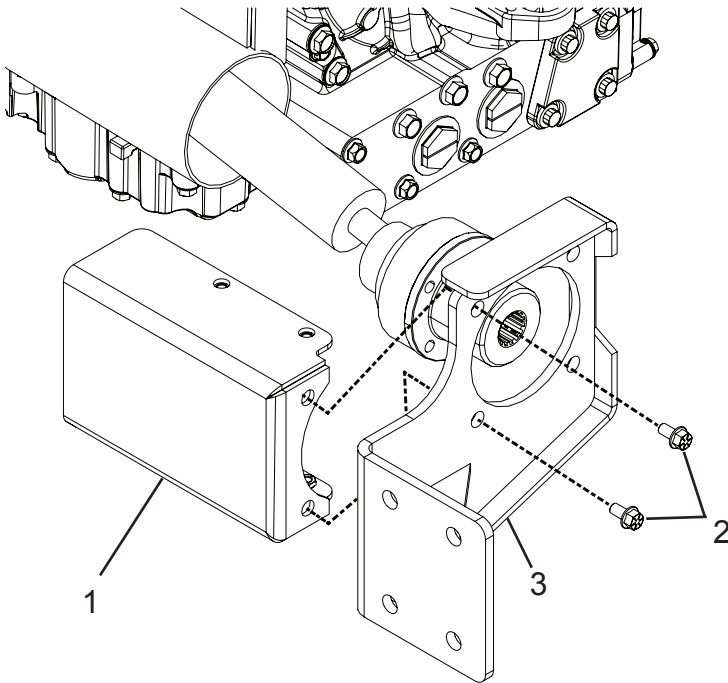

Figure 16
15. Using appropriate wrenches, reinstall the pump mount cover (Figure 16, Item 1) using the retained hardware (Figure 16, Item 2) to the pump mount support plate (Figure 16, Item 3).